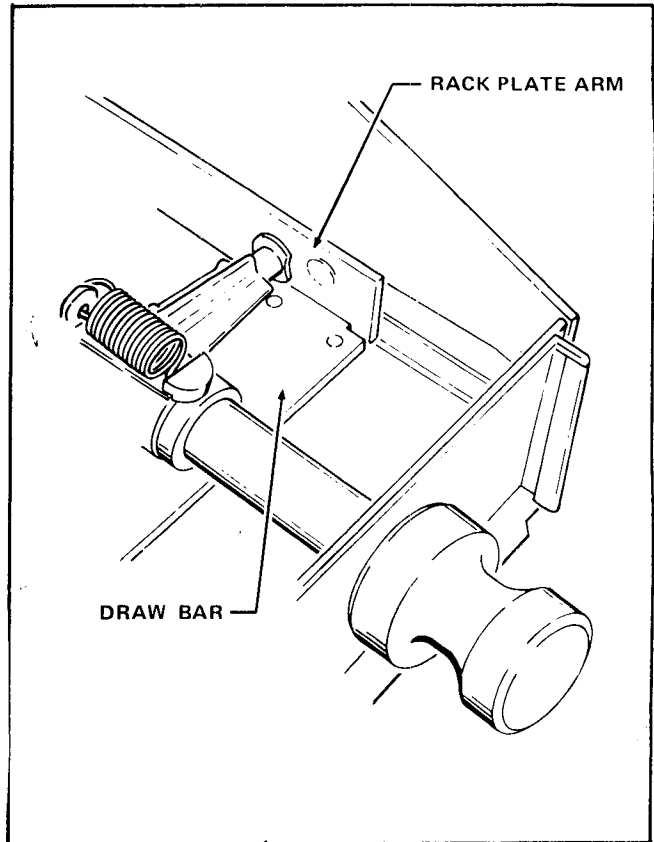

FIGURE 7-5
2. Check to be sure the right end of the Draw Bar is properly fit under the notched part of the Rack Plate Arm. Compare with the left end fitting of both parts. See Figure 7-5.